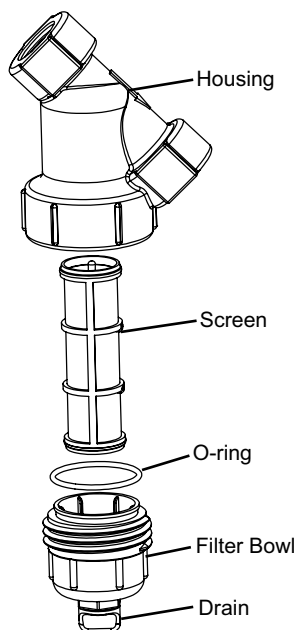

Figure 14
- Close the water pump supply valve (Figure 1) and open the filter drain (Figure 14).
- Loosen the filter bowl (Figure 14) by hand.